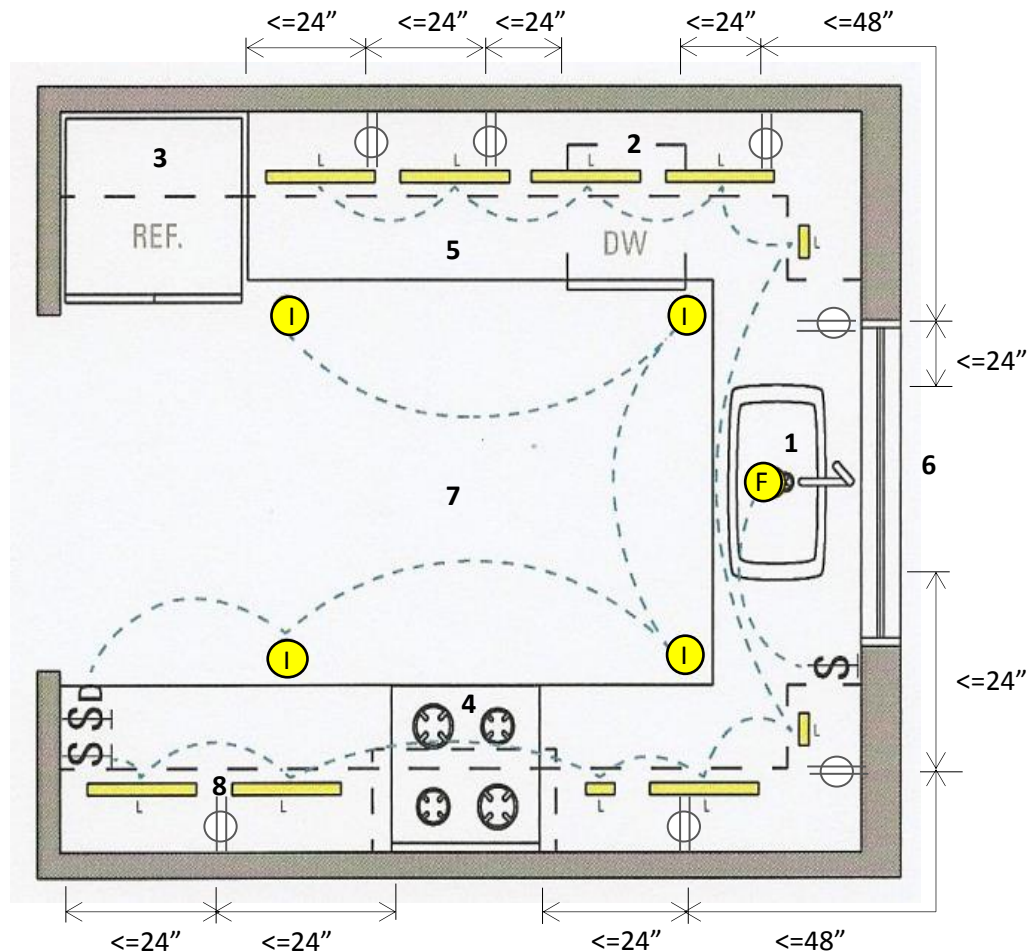

Figure 1
If the scope of work includes the reconfiguration of the kitchen layout, please bring **three (3)** sets of plans (minimum 8 1/2-in x 11-in drawings) depicting the existing and proposed kitchen floor plan and a written detailed description of the scope of work. It is important the plans clearly show all work proposed to avoid delays in permit issuance. Once a permit is issued, the scope of work is limited as defined and illustrated in the documents filed and the items to be replaced in the checklist below. See sample (figure 1) on next page. The applicant is responsible for compliance with all code regulations. If the scope of work is altered after permit issuance, the applicant shall request the permit be updated.